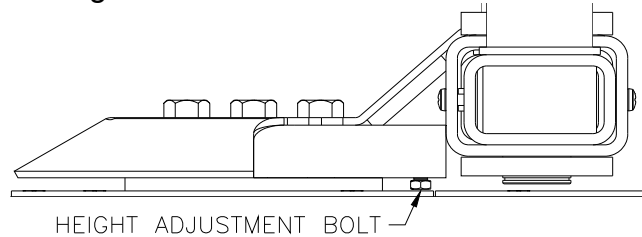

Fig. 10
27. With the lift lowered, arms extended fully and foot pad in the lowest position, check clearance of the foot pad screw to ensure it does not make contact with the floor. Use the height adjustment bolt (see figure 10) to either raise or lower the bolster as necessary. If there is more then 3/8" of clearance on both screws with the bolt fully seated against the bottom of the bolster remove the bolt.